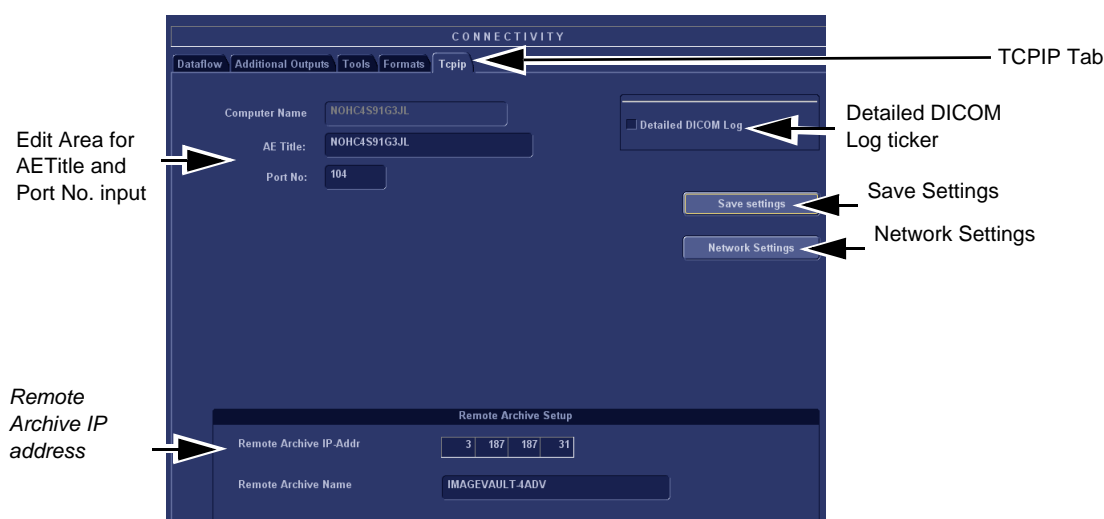

Figure 8-27 Verify TCP-IP set-up
- 7.) Select **Advanced Settings**. (See Figure 8-27 "Verify TCP-IP set-up" on page 8-27.)